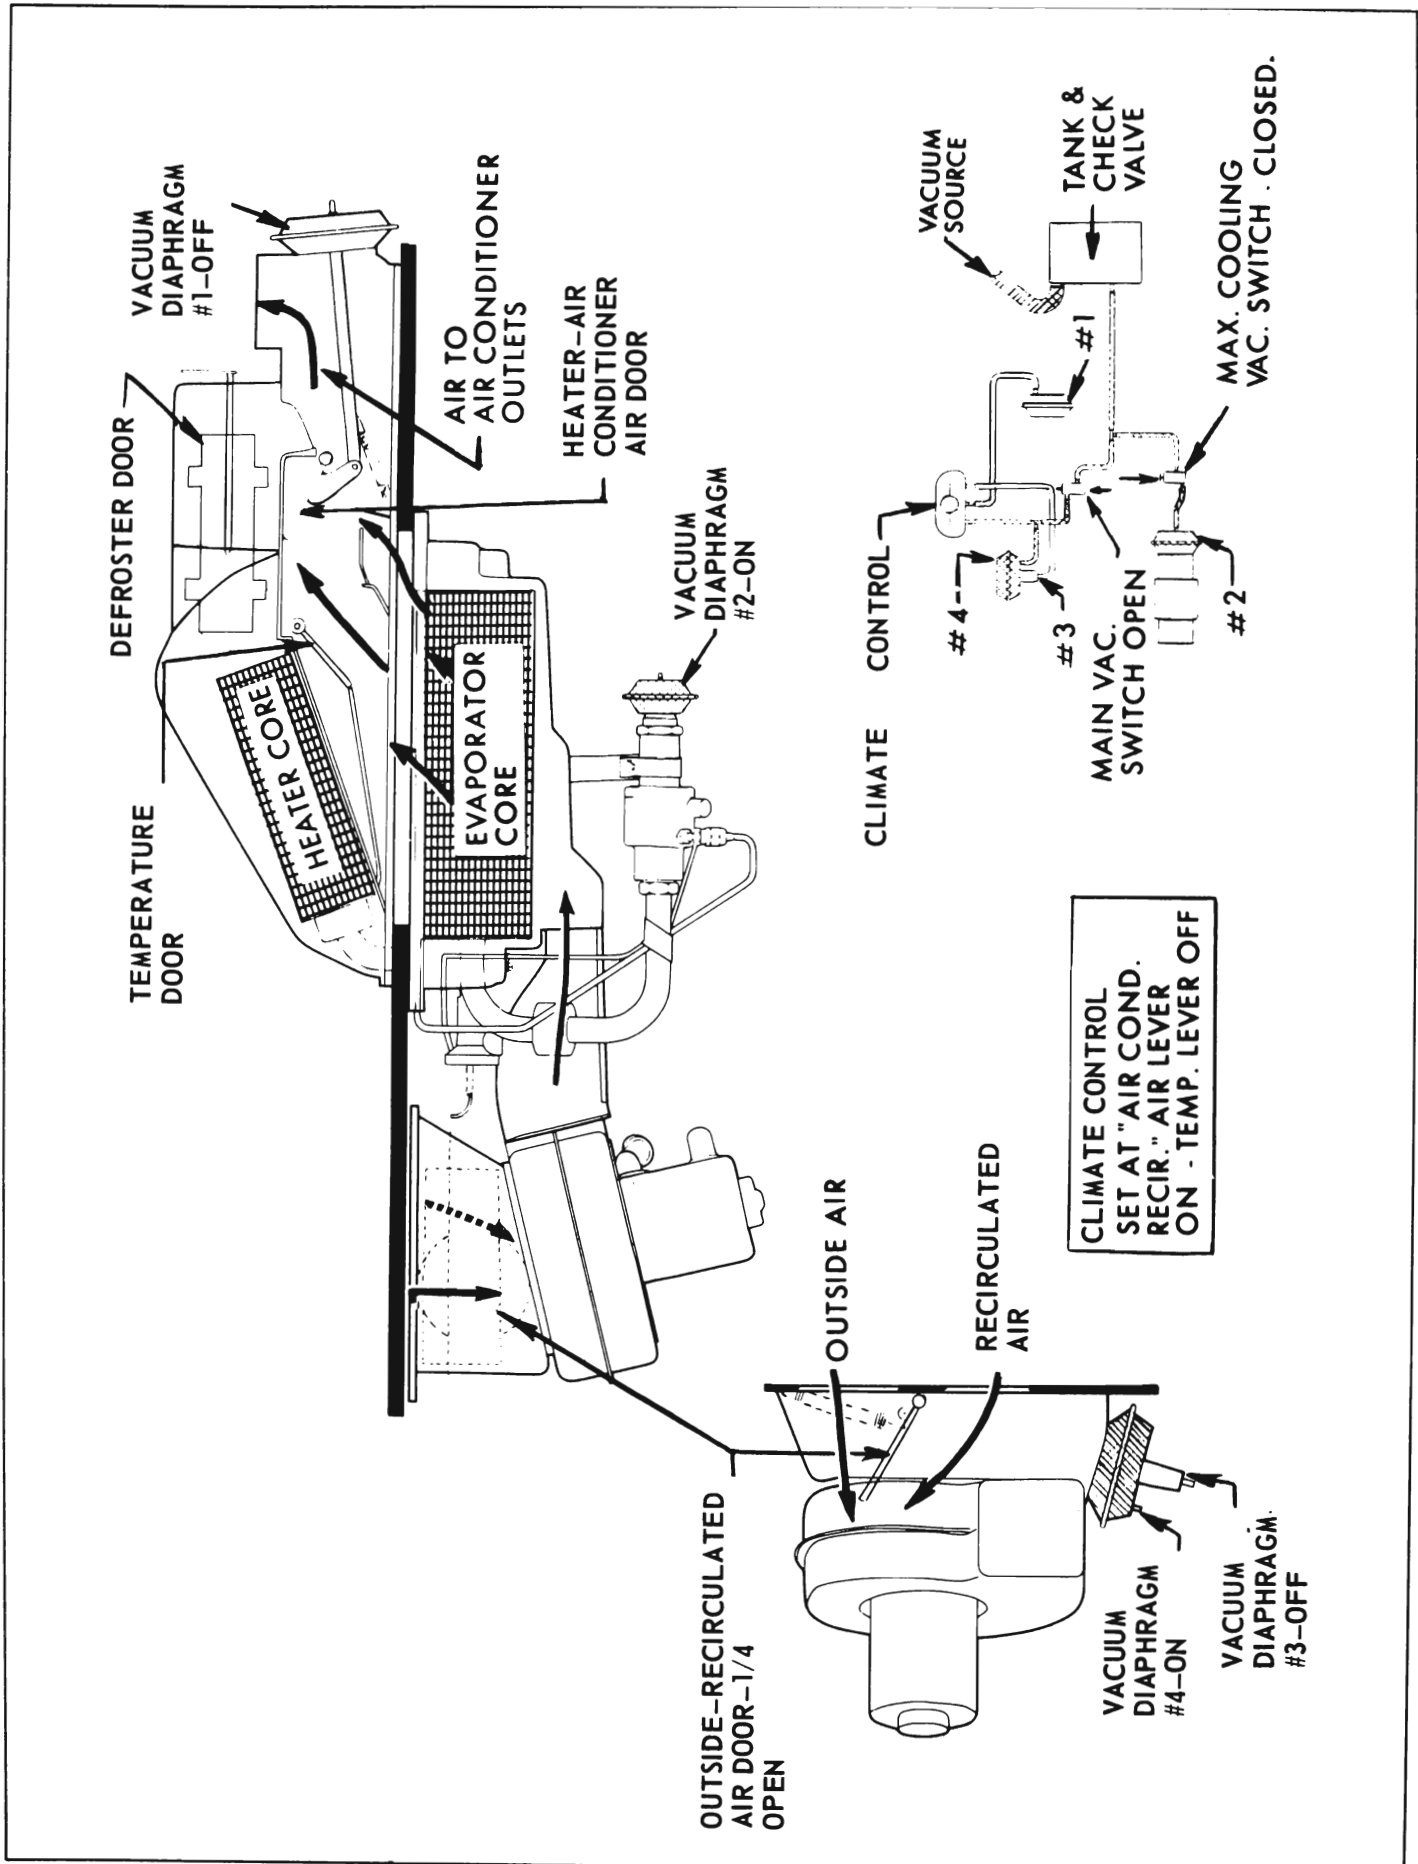

Figure 11-77—Air Conditioner Maximum, Heater Off - 4400, 4600 and 4800 Series
4. Air Conditioner Normal, Heater Off or On - The climate control is set at AIR COND NORMAL and the AIR lever is pushed on. The outside-recirculated air door is full open as vacuum is present at #3 and #4 vacuum diaphragm. See Figure 11-77. The compressor clutch is engaged and the blower is set on low-low blower speed when the AIR lever is in the first detent from off. Further movement of the AIR lever increases blower speed to low, medium and high. The suction throttle valve is set at maximum cooling as vacuum is present at its vacuum diaphragm.
5. Air Conditioner Maximum, Heat Off - The Climate Control is set at AIR COND RECIR, Air lever full on and the TEMP lever off. The outside-recirculated air door is set at the one-fourth open position by having vacuum applied only to the #4 section of the dual stage vacuum diaphragm. See Figure 11-77. This allows 1/4 outside air and 3/4 recirculated air to mix and be directed to the evaporator. With TEMP lever off, the suction throttle valve is set at maximum cooling and no air is directed through the heater core.